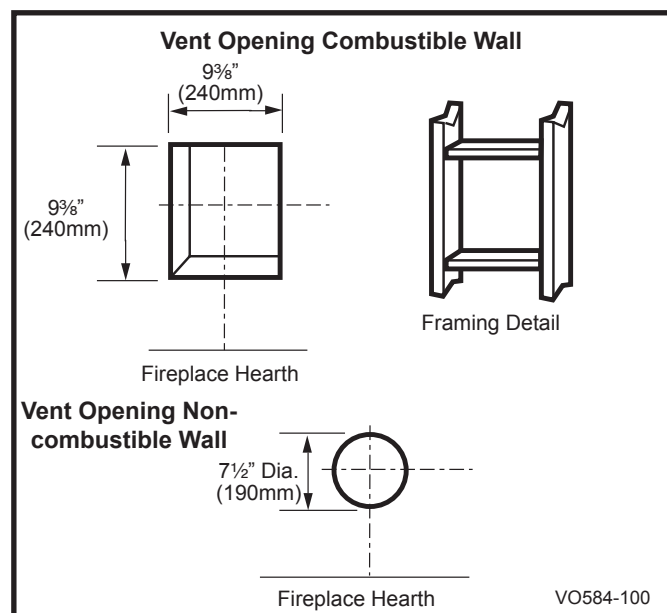

Fig. 31 Locate vent opening on wall.
Locate vent opening on the wall. It may be necessary to first position the fireplace and measure to obtain hole location. Depending on whether the wall is combustible or noncombustible, cut opening to size. (Fig. 31) (For combustible walls first frame in opening.)
Combustible Walls: Cut a 9 $\frac{3}{8}$ "H x 9 $\frac{3}{8}$ "W (238mm x 238mm) hole through the exterior wall and frame as shown. (Fig. 31)
1. Establish vent hole through the wall (Fig. 31)